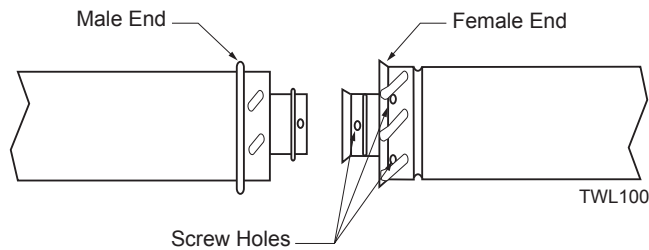

Figure 13 -
To join twist lock pipes together, simply align the beads of the male end with the grooves of the female end, twisting the pipe until the flange on the female end contacts external flange on the male end. It is recommended that you secure the joints with three (3) sheet metal screws, however, this is not mandatory with twist lock pipe. *Figure 13*